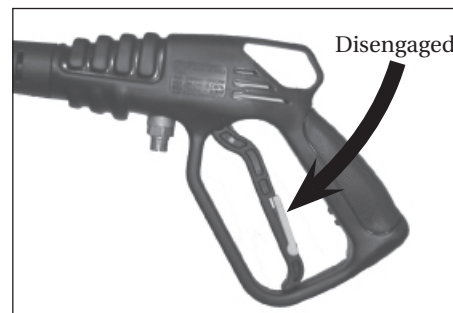

Figure 15 - Trigger unlocked
- Start the engine. Unlock the trigger safety latch on the gun (See Figure 15). Grasp the starter rope and brace one foot on the chassis. Point the gun in a safe direction. While squeezing the trigger on the gun, pull the starter rope rapidly and firmly (See Figure 16). Continue holding the rope as it returns. Repeat these steps until the engine starts.